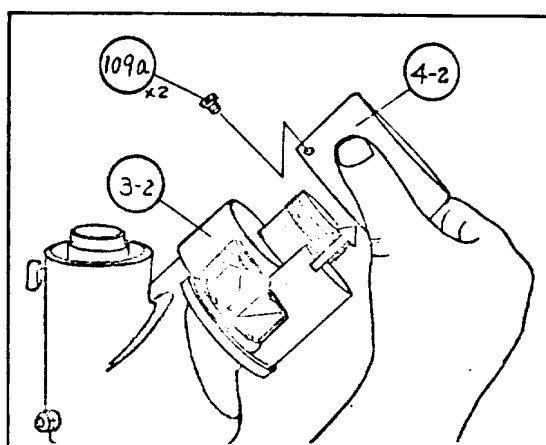

Fig. 6
- 4) Unscrewing the screws (109a) x2, remove the prism box (4-2) or (3-2) (Fig. 6).